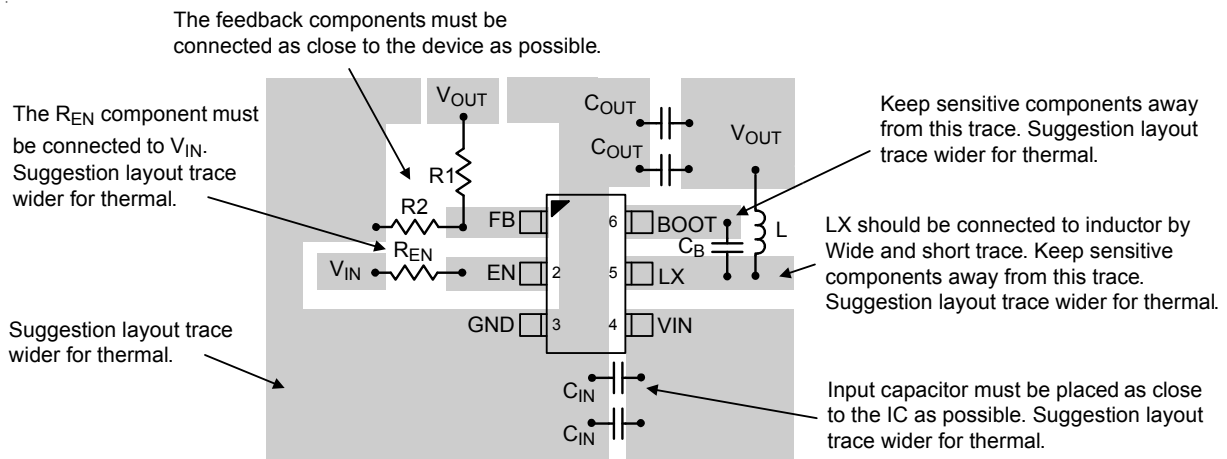

Figure 8. PCB Layout Guide for TSOT-23-6 package
- ▶ An example of RT6255 PCB layout guide is shown in Figure 8 and Figure 9 for references.